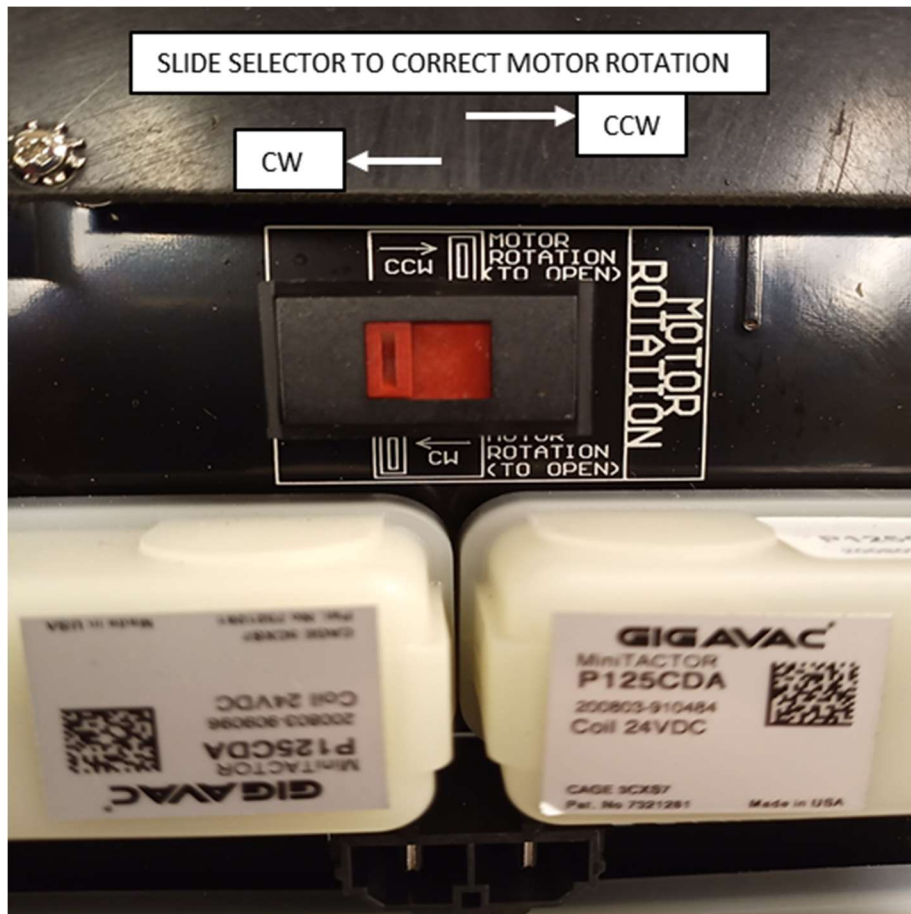

Figure 5 – SUB1 Motor Rotation Selector
- a. If direction of rotation is not correct, reverse the motor rotation direction per Figure 5